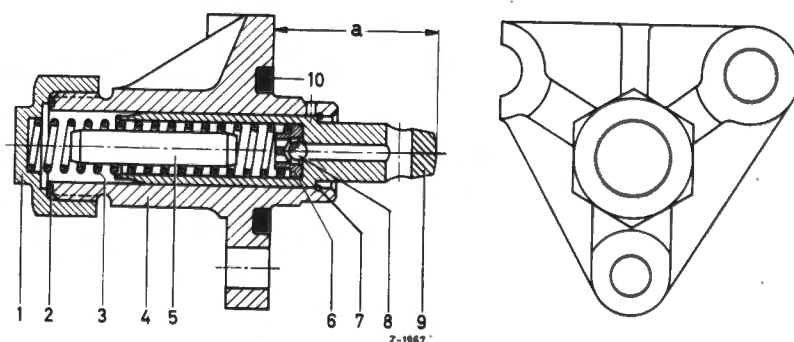

Fig. 05-11/1
It is advisable to replace faulty chain tensioners as a complete assembly. If individual parts are obtained for replacement, the pressure pin (9) and the housing (4) must not be exchanged individually since both parts must be selected so as to match perfectly (see Fig. 05-11/1).
1. Unscrew the cap nut (1); please remember that the pressure spring (3) presses against the cap nut (see Fig. 05-11/1).
2. Take the pressure spring (3), the pin (5), the ball retainer (6), the ball (8), and the pressure pin (9) out of the housing (4) (see Fig. 05-11/1).
4. Insert the pressure pin (9) in the housing (4). Put the ball (8) together with the ball retainer (6), the pin (5), and the pressure spring (3) in the pressure pin (9). Screw on the cap nut (1) together with the sealing ring (2) and tighten (see Fig. 05-11).